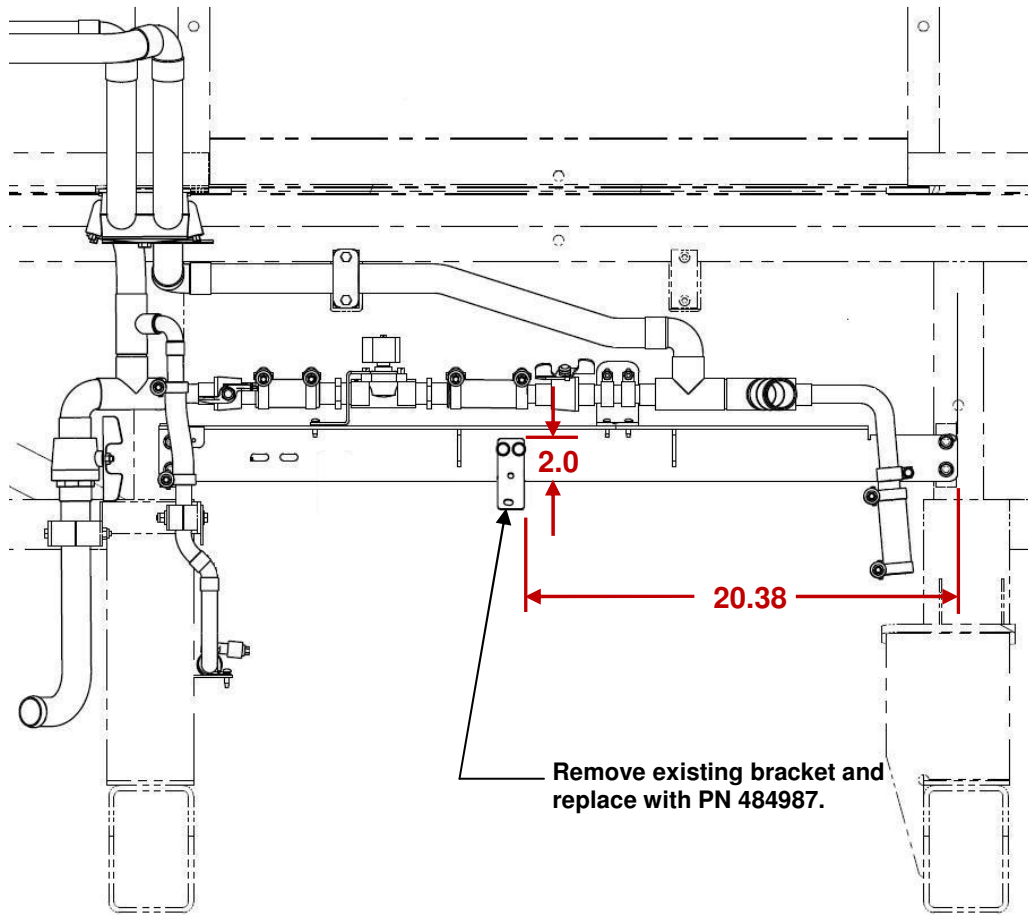

Figure 1 – Clamp Plates (Aux heater and engine removed for clarity)
8. Place the supplied clamp support bracket (NF PN 484987) in the location shown in Figure 1 and secure it in place with two 1/4 inch self tapping screws.(NF PN 34S04012) and two flat washers (NF PN 10W04000).